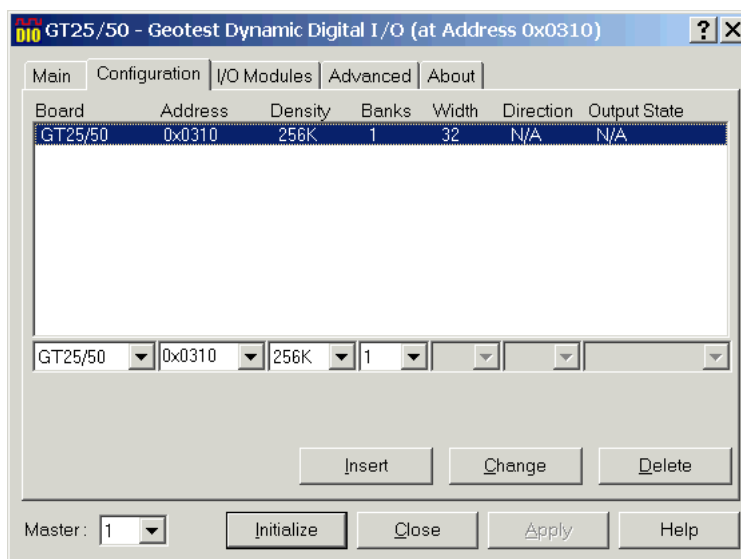

Figure 3-10: GT-DIO Panel Configuration Window
2. To configure the installed board(s), click **Configure** The DIO Configuration window opens, as shown in Figure 3-10.
3. Insert the board(s) parameters in the configuration table (see Figure 3-10.) Beginning with the Master board, configure each installed board with the following steps: